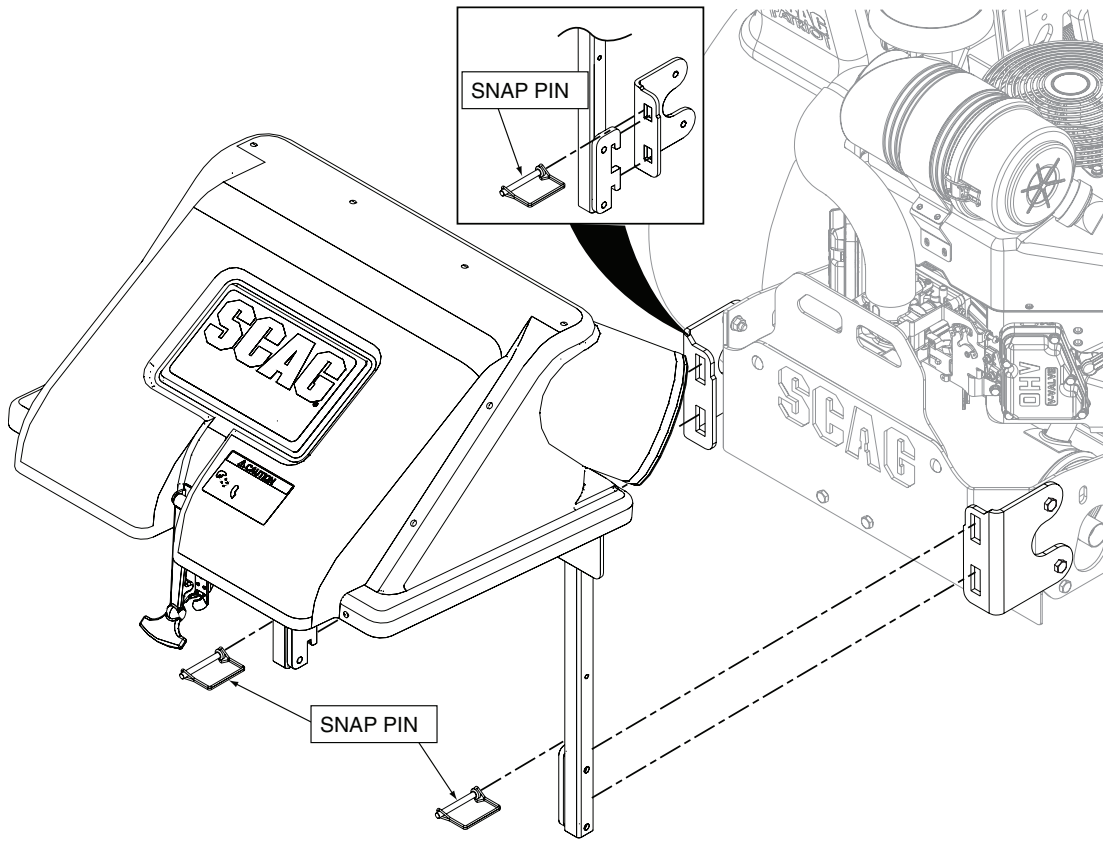
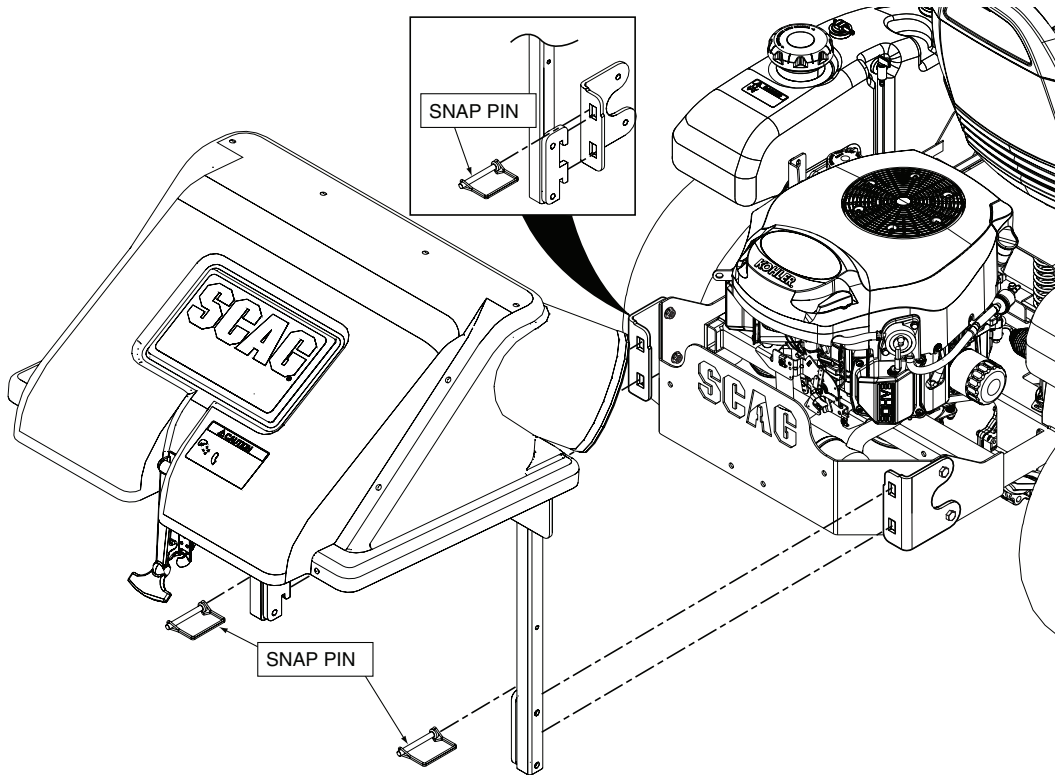

Figure 2-17. SFZ / SFZP / SPZ Hood Assembly Installation
Figure 2-18. SZL Hopper Mounting Holes
6. With help from an assistant, install the grass catcher hood assembly onto the grass catcher mounting brackets installed on the machine in Step 4. See Figure 2-17 for SFZ / SFZP models and Figure 2-18 for the SZL models. Secure with the (2) snap pins included with this grass catcher.